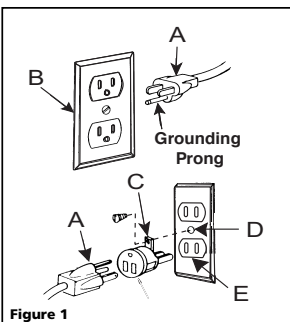

Figure 1
4. This tool is intended for use on a circuit that has an outlet that is represented in Figure 1. The tool has a grounding plug, labeled (A). A temporary adapter may be used to connect the plug into a 2 hole receptacle (E). This temporary adapter should be used only until a properly grounded outlet (B) can be installed by a qualified electrician. The green colored rigid ear (C) extending from the adapter must be connected to a permanent grounded only, such as a properly grounded outlet screw (D).